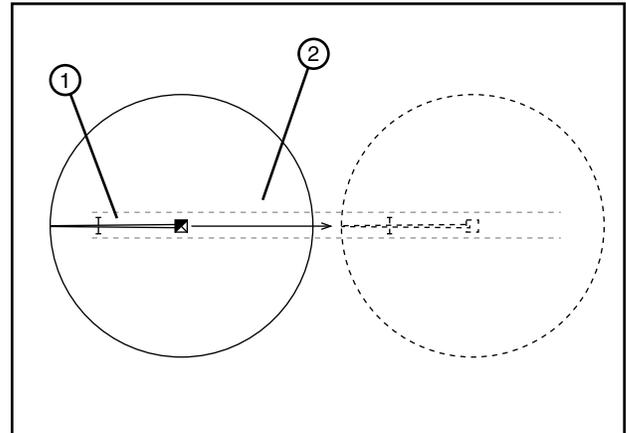

Figure 37-1 1. Machine
1. Position the machine in the tow lane. When positioning the center pivot, always use the "STOP" button on the control panel to stop the center pivot. NEVER stop the center pivot with the control panel or service disconnect switches. See figure 37-1.